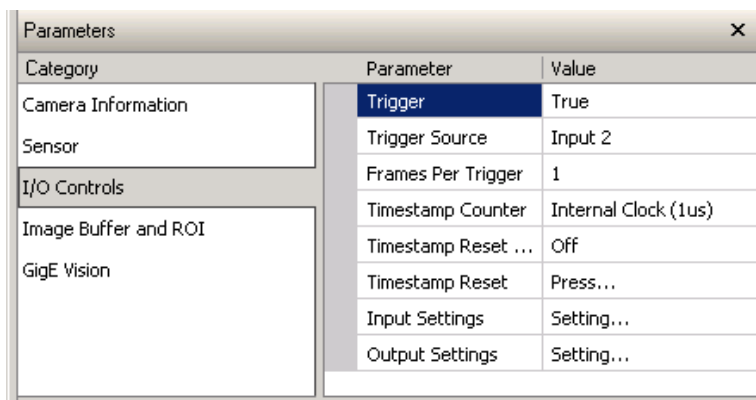
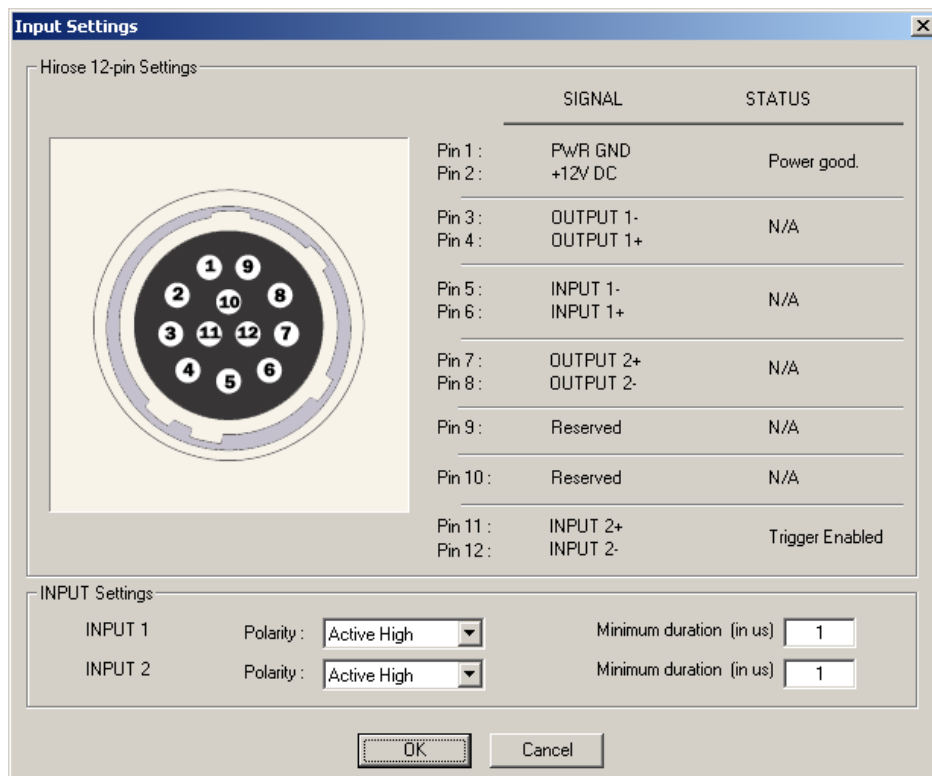
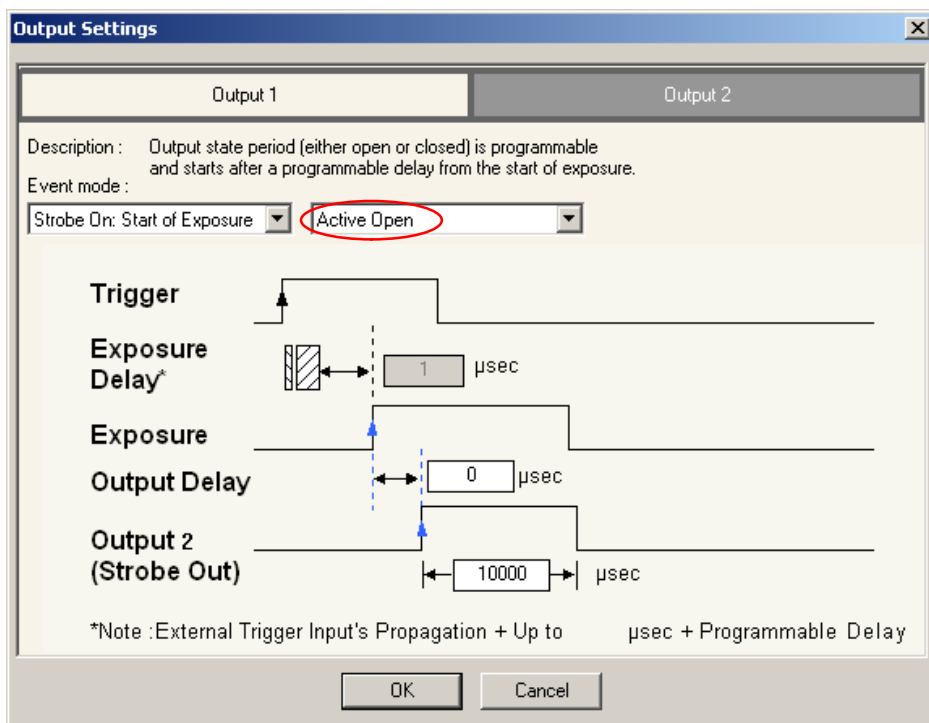

Figure 35. I/O Tab
Figure 36. Input Settings
Figure 37. Output Settings
1. Click on the “I/O Controls” tab (Figure 35).
4. Click on “Setting” beside “Input Settings” in the I/O Controls panel (Figure 35) to open the Input Settings window (Figure 36). Change to Active High or Active Low as needed to match the hardware signals.
- Click on “Setting” beside “Output Settings” in the I/O Controls” panel (Figure 35), to open the Output Settings window (Figure 37).